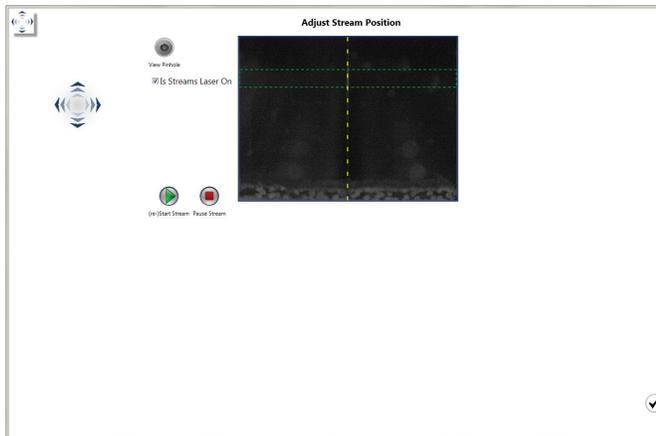
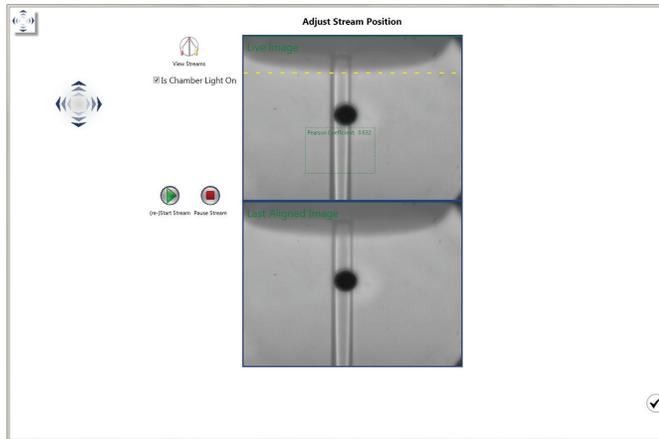

Fig. 109. Adjust Stream Position window streams view.
Fig. 110. Adjust Stream Position window pinhole view
28. Perform droplet calibration and QC to complete the tip swap process (Figure 109–112).
Prior to droplet calibration, the Adjust Stream Position window appear as a final check for positioning of the stream (Figure 109). The pinhole image can also be accessed from this window (Figure 110).